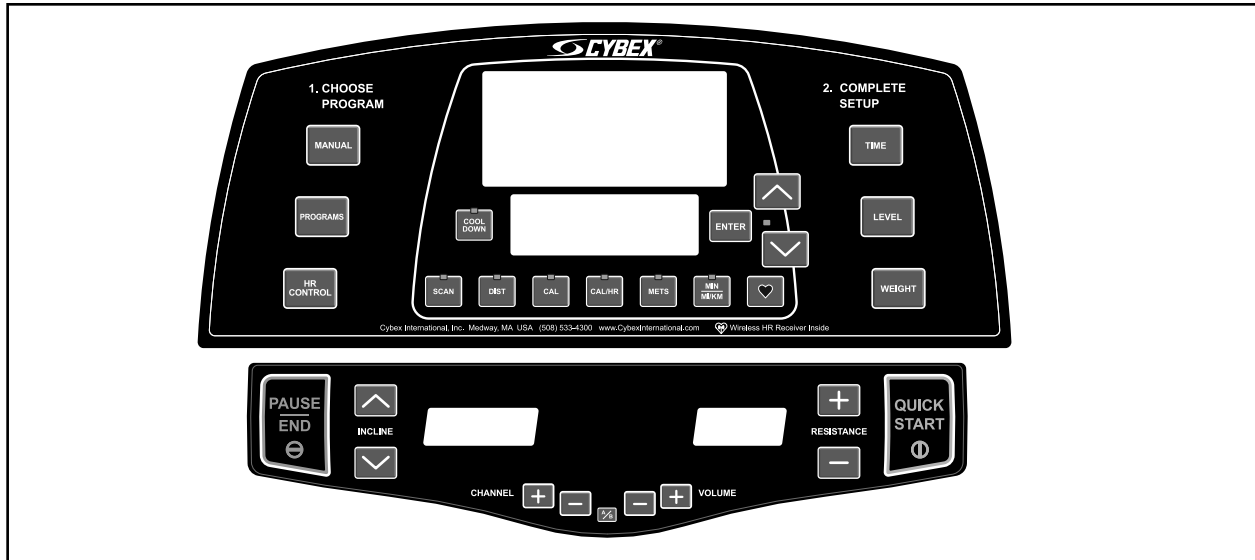

Figure 1
5. The treadmill begins a countdown, "3...2...1" and sounds a tone for each count. When it reaches one (1) the treadmill gives a shorter tone and then starts accelerating the belt. In *Manual Mode* the belt will begin accelerating to 0.5 mph (0.8 kph) and the incline will remain at zero percent. In a program the belt will begin accelerating and the incline will change to the corresponding speed and incline of the program and level you selected.
7. Observe the three display windows. The top center window will scan (every three seconds) through **Distance, Calories, Calories per hour, Mets, Pace and Heart Rate**. Press the **Scan** key to toggle this feature on or off. **NOTE:** Heart Rate is scanned only when you are holding the contact heart rate grips or wearing a Polar® compatible chest strap. The left window will display the time. **NOTE:** During your workout the time will show in the format of minutes:seconds (after 99:59 the display will only show minutes). The right window will display the current speed. See Figure 1.